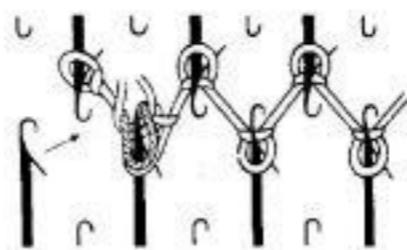

Fig. 74
**Method 1:** This can only be done at the start of row. To do this pull forward into working position the next empty needle at the end nearest the carriage, and knit. (Fig. 74)